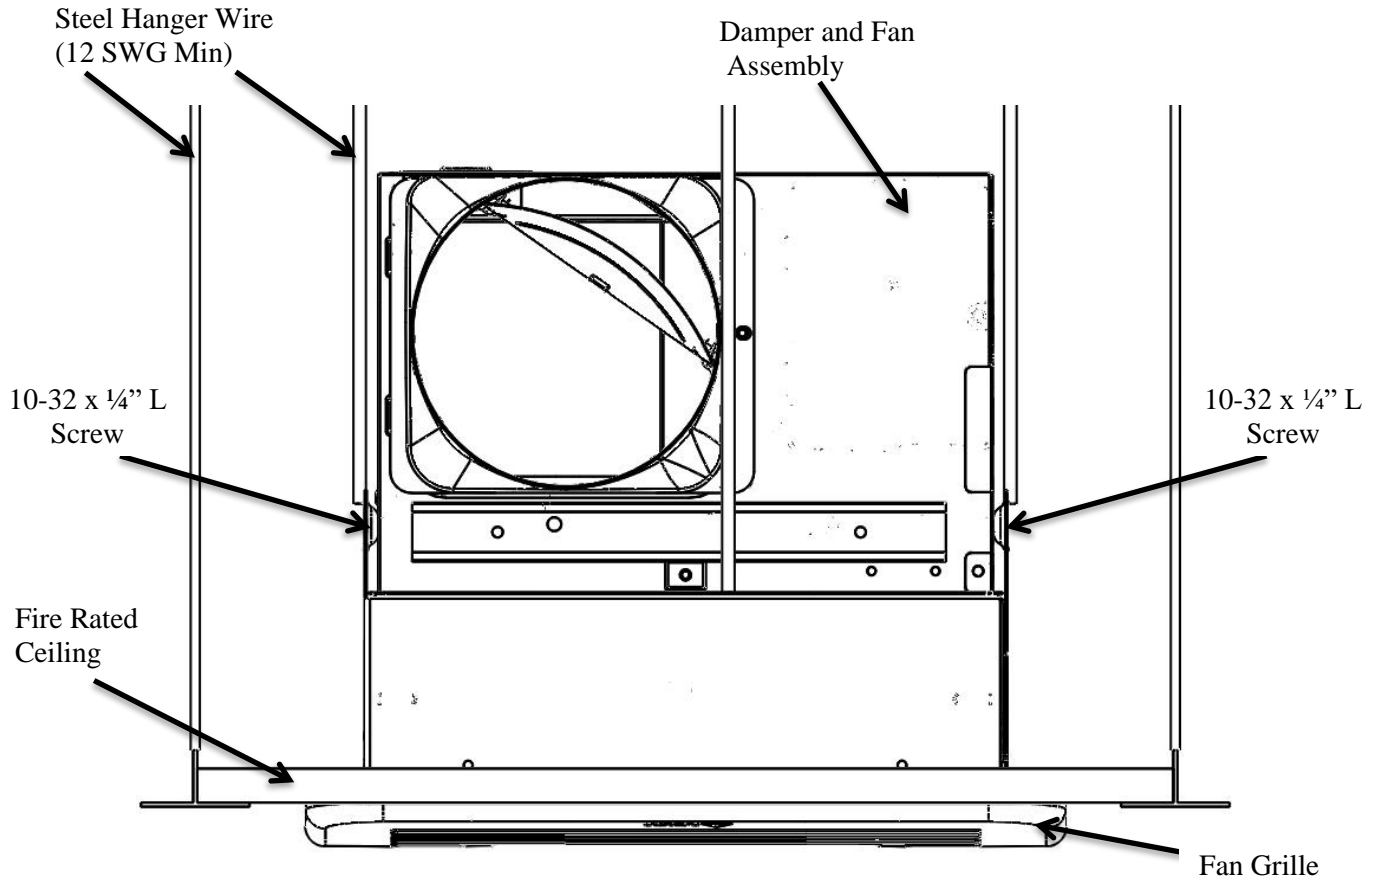

Fig. 1
1. Install the radiation damper onto the inlet side of the fan so that the holes in the sleeve align with mounting holes on the fan using the four #10-32 x 1/4" long screws provided with the damper assembly (general installation). The mounting holes of the fan should be aligned with the mounting holes of the damper assembly (refer to Figure 1).